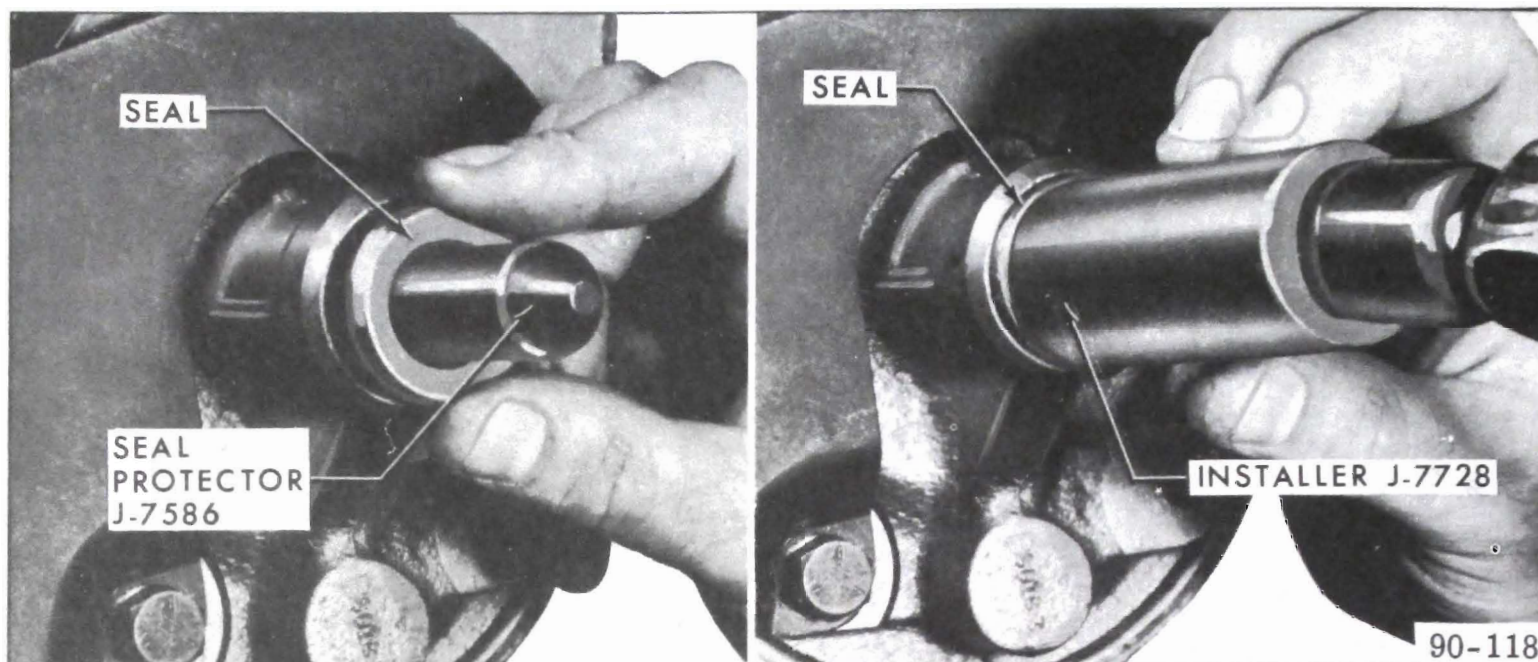

Figure 90-79 Installing Oil Pump Shaft Seal
1. Place seal protector J-7586 over shaft. Lubricate new seal with power steering oil and drive in pump housing, spring side first, with installer J-7728. See Figure 90-79. Just bottom seal in housing. *Excessive force must not be used when driving seal in place.*